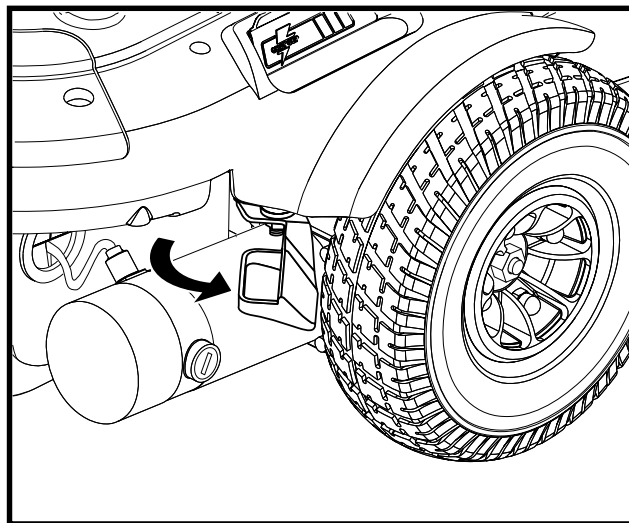

Figure 9. Freewheel Mode (Drive Disengaged)
3. Pull the two levers outward to disengage the drive motors. See figure 9.